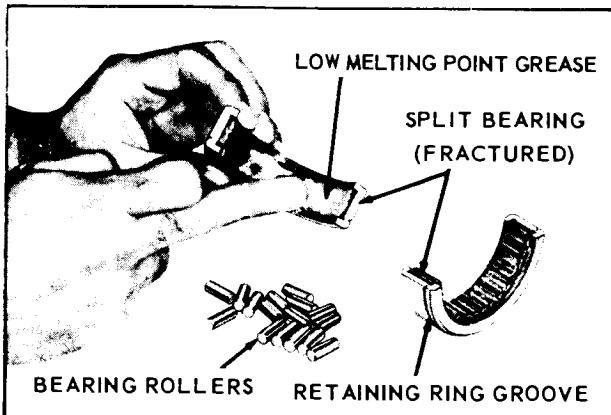

Fig. 54
*In reassembly;* coat inside of bearing halves with a low melting point grease or petroleum jelly. Do not use a standard lubricating grease. With reference to Fig. 54, press 16 rollers into the grease of each of the bearing halves; assemble to crankshaft and clip